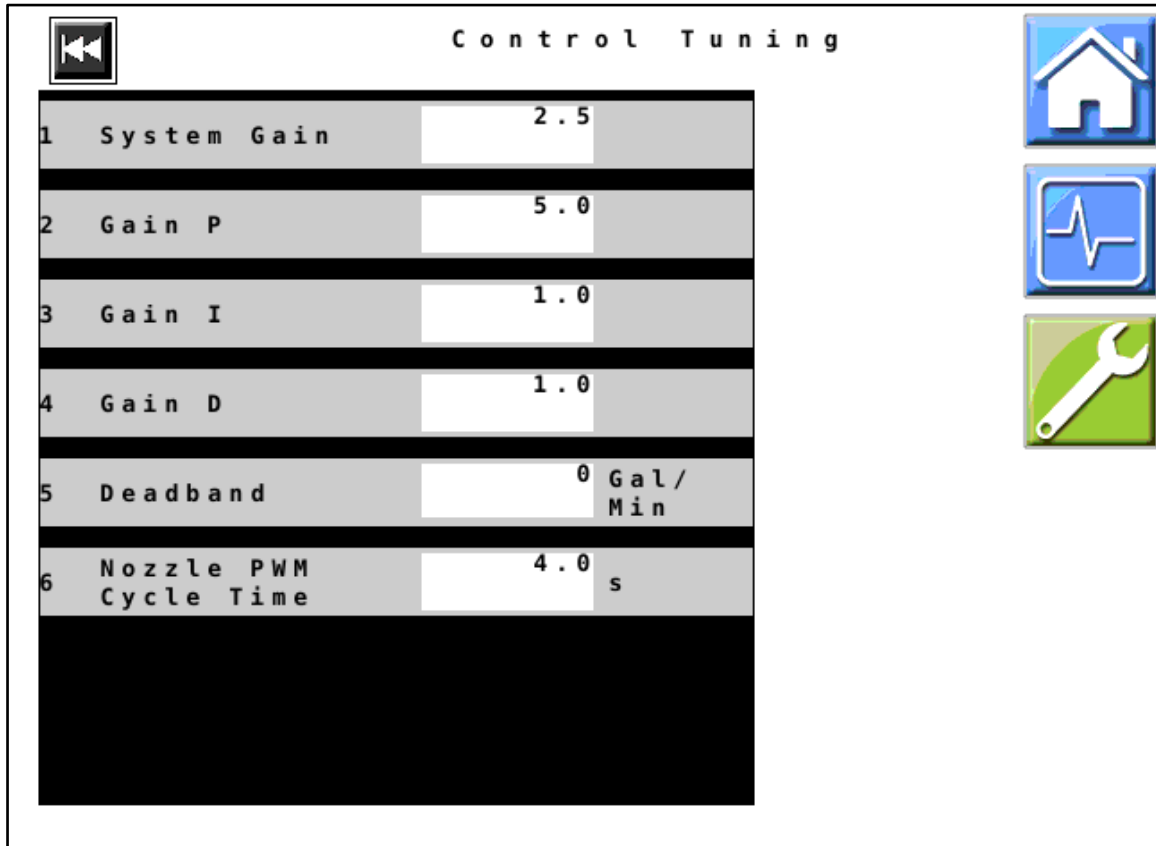

Figure 15 — Control Tuning
26. *Figure 15*: Verify that all values displayed on your unit match those shown here. Change values if necessary.